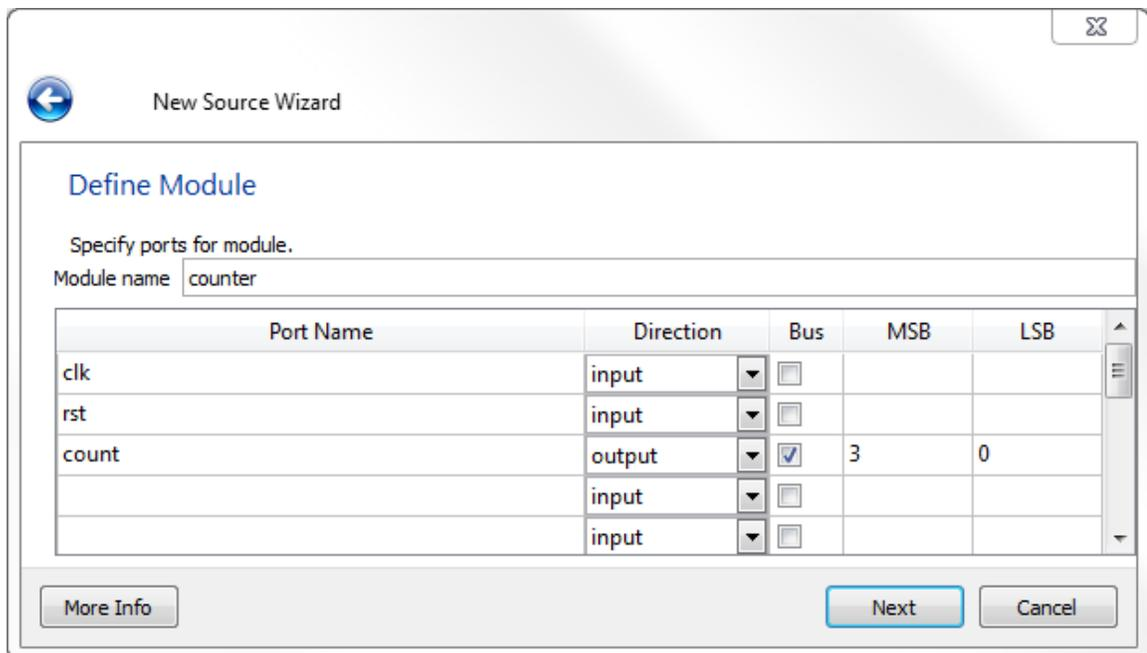

Figure 3
2. In this **optional** step, the circuit's input and output ports can be defined. A port can be a single bit or bus. For the counter add clk and rst as single bit inputs and count[3:0] as an output bus similar to Figure 3.